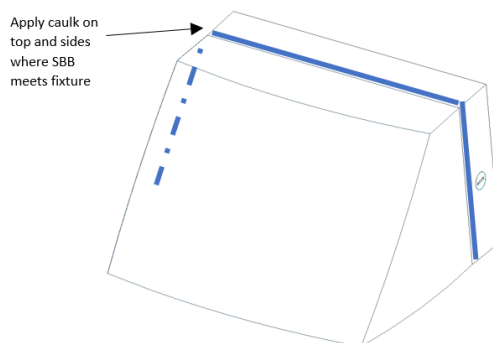

Figure 16
8. Proceed with step 3 of the standard instructions. Ensure to caulk the top where the SBB and the fixture connect (Figure 16).